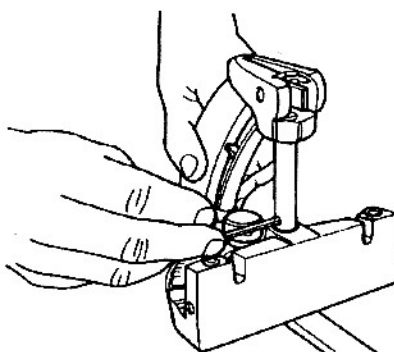

Fig. 61
70. Insert a 5/32" Allen wrench through the hole in the post (350), and use the wrench like a lever to tighten the post in the hole, as seen in Fig. 61.